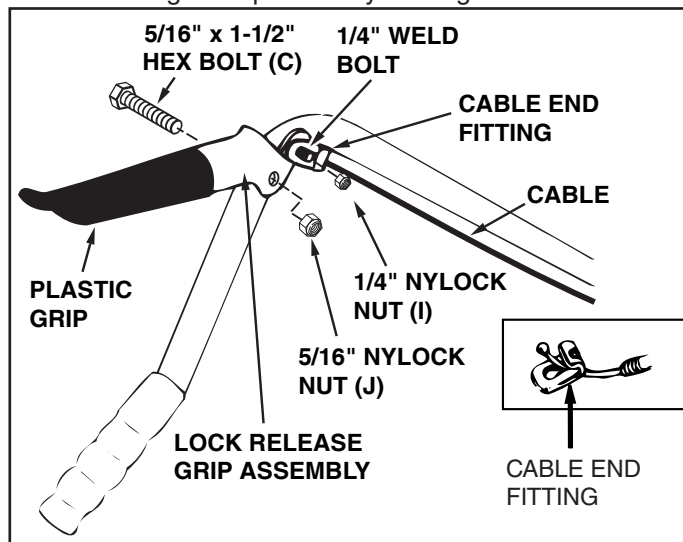

FIGURE 18 (Right Hand Side View)
33. Assemble plastic grip onto lock release grip assembly. See figure 18.
34. Attach lock release grip assembly to lift handle tube using one 5/16" x 1-1/2" hex bolt (C) and one 5/16" nylock nut (J). Do not overtighten the nut. The grip assembly must pivot freely. See figure 18.
35. Assemble the ball end of the cable to a cable end fitting as you did to the other end of the cable. Secure the cable end fitting to the weld bolt on the lock release grip with a 1/4" nylock nut (I). Do not overtighten the lock nut. The cable fitting must pivot freely. See figure 18.